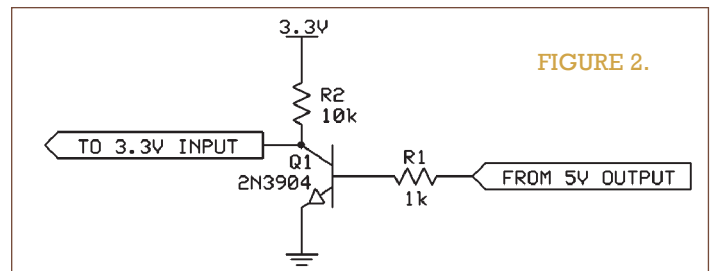

FIGURE 2.
Using a diode to isolate the 5V signals from the 3.3V device can offer a safer method of interfacing, and does not require the 3.3V device to have protection diodes. In this interface, the diode prevents 5V signals from entering the 3.3V device, but allows the 5V device to assert the signal low, ensuring that the 3.3V device only sees 3.3V or 0V (GND). **Figure 2** shows the diode circuit allowing a 5V device to control a 3.3V device. Note R1 which is used to ensure the 3.3V input is high when the 5V device is not asserting the line low. This resistor is needed because the 5V device cannot assert the signal high.
As of this printing, Gravitech has the best price for one of these boards that I know about which is \$12.99 for item #FT232RL-BO (Figure 2).
■ FIGURE 2. Gravitech board FT232RL-BO.